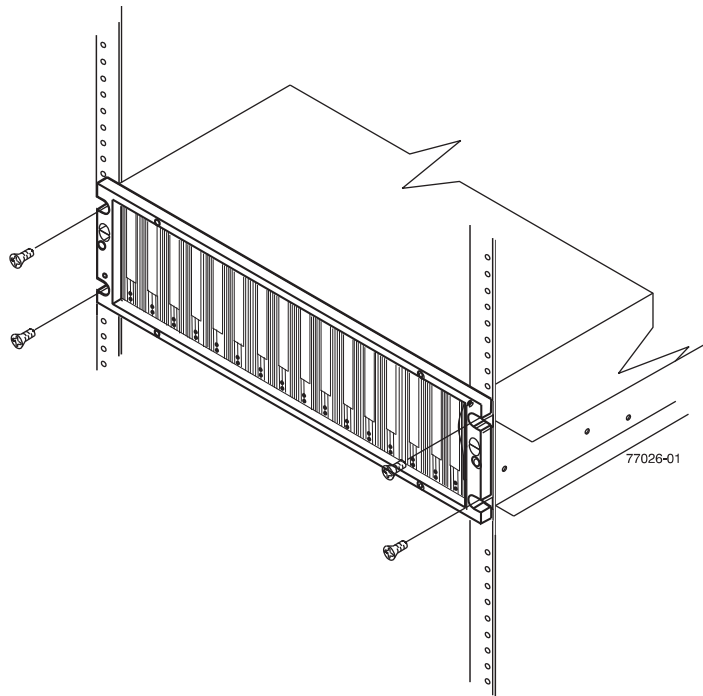

Figure 19. Securing the storage expansion enclosure to the rack
4. Secure the storage expansion enclosure. Figure 19 on page 38 shows how to secure the storage expansion enclosure to the rack.
- c. Secure the front of the storage expansion enclosure using the four M5 screws as shown in Figure 19 on page 38.